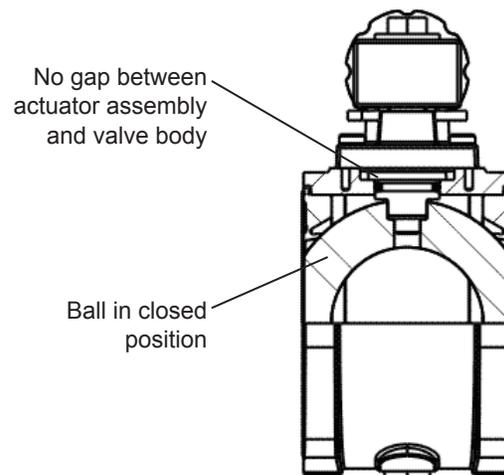

Figure 4
2. Push the actuator assembly down against valve body assembly and rotate the handle assembly in both directions slightly while pushing assembly against valve body until actuator drops into slot in valve ball as shown in Figure 4. There should be no gap between the actuator assembly and the valve body.